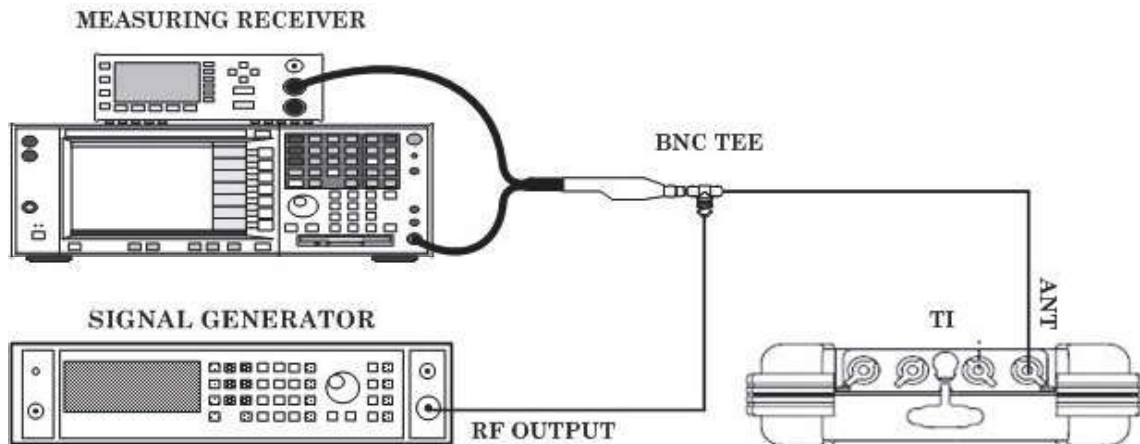

Figure 2. AM/FM Meter Setup.
- (1) Repeat paragraph 7 g to preset TI.
- (2) Press **MODE** until **COMM AM** mode screen is displayed.
- (3) Connect equipment as shown in figure 2.
- (4) Configure measuring receiver for a 400 MHz measurement.
- (5) Set signal generator output to 0 dBm adjust for a 400 MHz indication on measuring receiver.
- (6) Configure measuring receiver for AM measurement with 300 Hz HP and 3 kHz LP filters and **PEAK ± /2** detectors on.
- (7) Press TI **FREQ** and set **FREQ** to **400.0000 MHz**.
- (8) Set signal generator to AM with a 1 kHz modulation frequency.
- (9) Adjust signal generator AM modulation level until a measuring receiver indicates first value in table 28. TI **TX MOD** should indicate within the limits in table 30.
- (10) Repeat step (9) above for the remaining settings in table 30.
- (1) Press the following TI keys, as needed, in (a) through (e) below.
- (2) Connect equipment as shown in figure 2.
- (3) Set signal generator to -20.0 dBm at 165 MHz.
- (4) Configure measuring receiver for a 165 MHz measurement.
- (5) Set signal generator FM on and modulation frequency to 400 Hz.
- (6) Configure measuring receiver for FM measurement with 50 Hz HP and 3 kHz LP filters on.
(7) Vary signal generator FM deviation frequency until measuring receiver indicates the first setting in table 31. If **TX DEV** does not indicate within the limits in table 31, perform b below.
(8) Repeat step (7) above for the remaining FM settings in table 31.